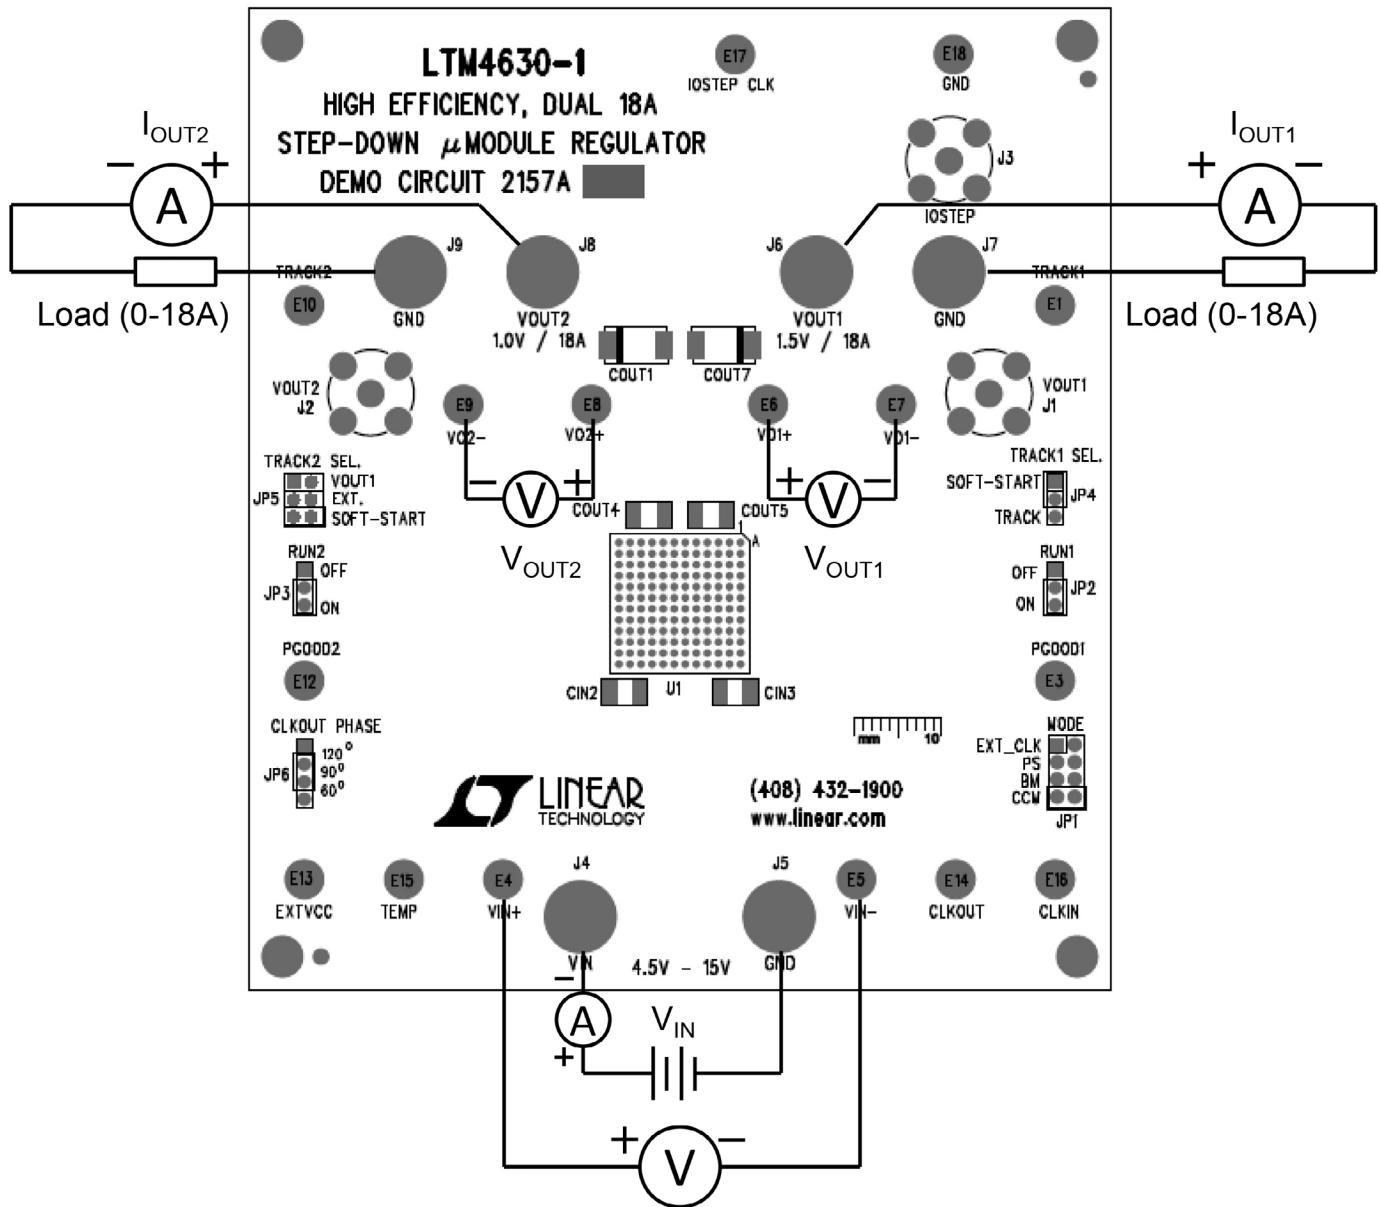

Figure 1. Test Setup of DC2157A
Demonstration circuit DC2157A is easy to set up to evaluate the performance of the LTM4630-1. Please refer to Figure 1 for proper measurement setup and follow the procedure below:
2. With power off, connect the input power supply, load and meters as shown in Figure 1. Preset the load to 0A and  $V_{IN}$  supply to 12V.